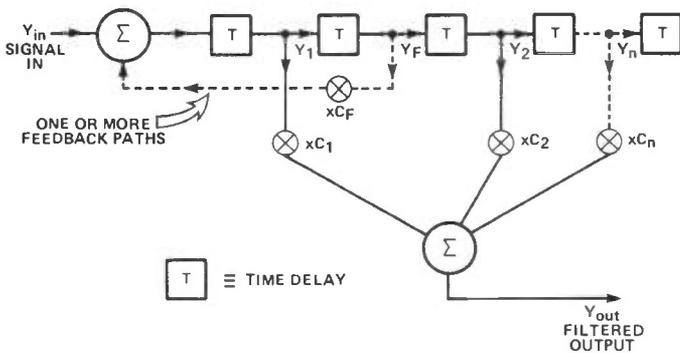

Figure 1. Block diagram of a filter, with feedback path shown by the broken line.
**Figure 1** shows a block diagram of a digital filter. The filter works by successively delaying the input signal, multiplying the delayed signal sample  $Y(n)$  by co-efficients  $C(n)$  and finally summing all the delayed samples. If the feedback path shown in the dotted line is not included in the filter, it is known as a Finite Impulse Response or FIR Filter, since a pulse input will give an output which is limited in time by the length of the delay element. If the feedback path is included, the response will be theoretically infinite and hence it is known as an IIR or Infinite Impulse Response filter. It can be shown mathematically that the effect of these operations in time is equivalent to filtering in the frequency domain. Therefore, high, low and bandpass filters can all be implemented with these structures. IIR filters usually need less hardware for a given performance, but require care in design since the feedback path can make them unstable.